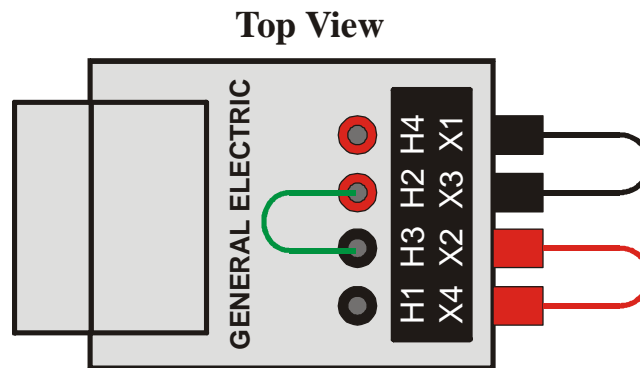

Figure 1 Transformer connections for 240/120 configuration.
- 2) Configure the transformer in a 240/120 (primary/secondary) configuration by connecting the high voltage coils (H2-H1 & H4-H3) in series, i.e., tie jack H2 to H3, and the low voltage coils (X2-X1 & X4-X3) in parallel, i.e., tie jack X1 to X3 and jack X2 to X4, as shown in Figure 1.